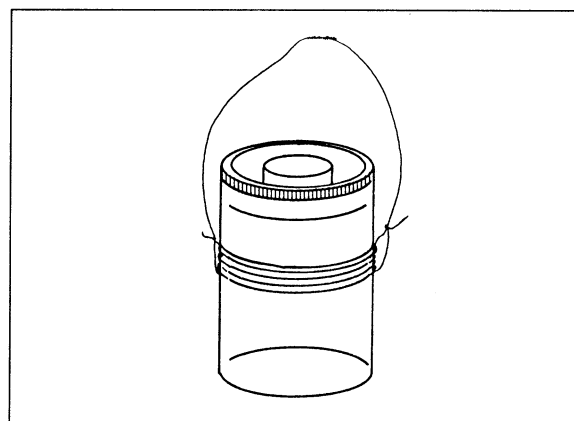

Fig. 1.1 One way of suspending the round tin
2. Attach the rubber ring and cord to the round tin as shown in fig. 1.1. Then fasten the cord (10 cm) to the aluminium cuboid.